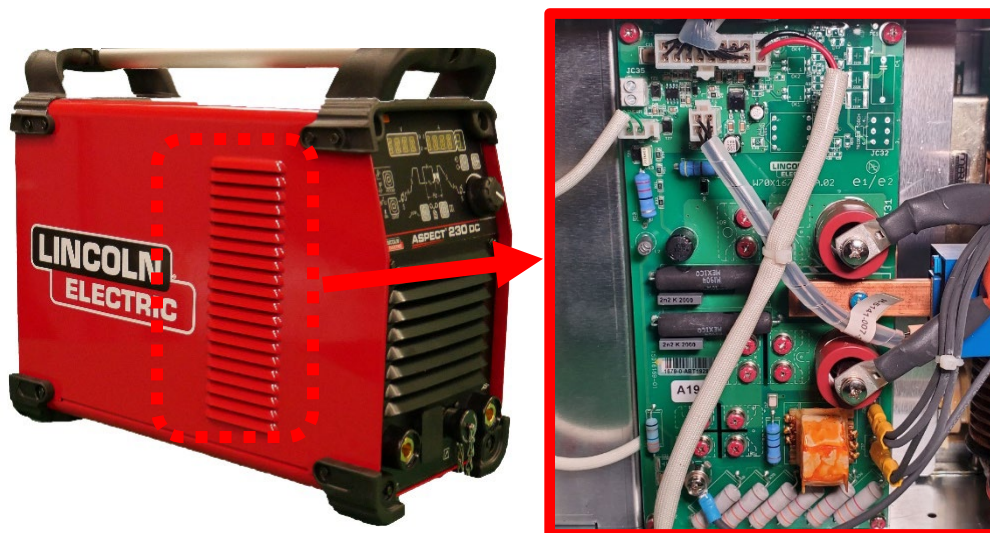

Figure F.1
1. For location of the Output Power Board refer to Figure F.1.